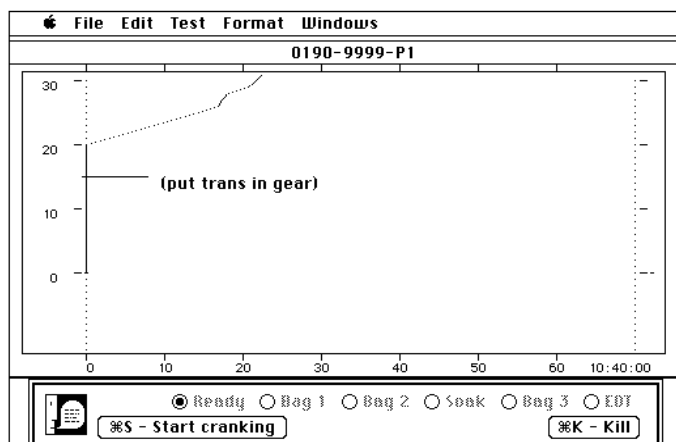

Figure 2
- 302 Ensure that the “Ready” indicator is on at the bottom of the VDA screen. See Figure 2.